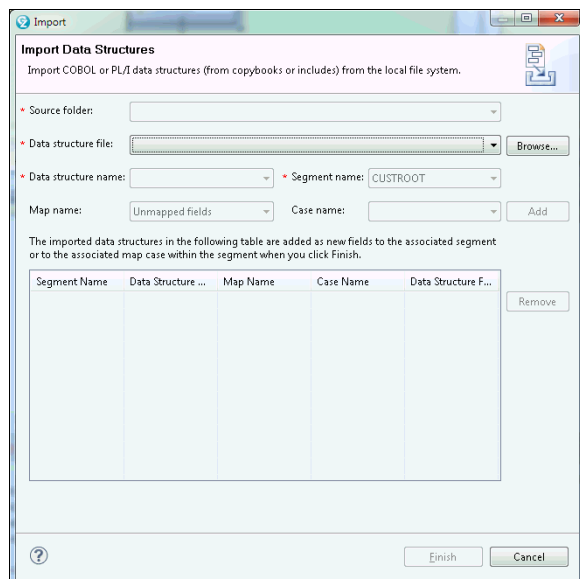

Figure 8-31 Importing database metadata from COBOL or PL/I
1. Right-click the CUSTROOT segment in the graphical view, and select **Import COBOL or PL/I Data Structures**. This action opens the window that is shown in Figure 8-31.
To select the file that contains the COBOL or PL/I definition for the segment, click **Browse**, as shown in Figure 8-31.